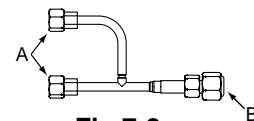

Fig.7-2
**Y-shape connection pipe for 100 type indoor unit (optional parts) (Fig.7-2)**